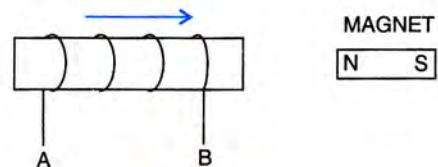

Fig. 10.43
- The diagram in Fig.10.43 shows a coil of several turns of copper wire near a magnet NS. The coil is moved in the direction of arrow shown in the diagram.